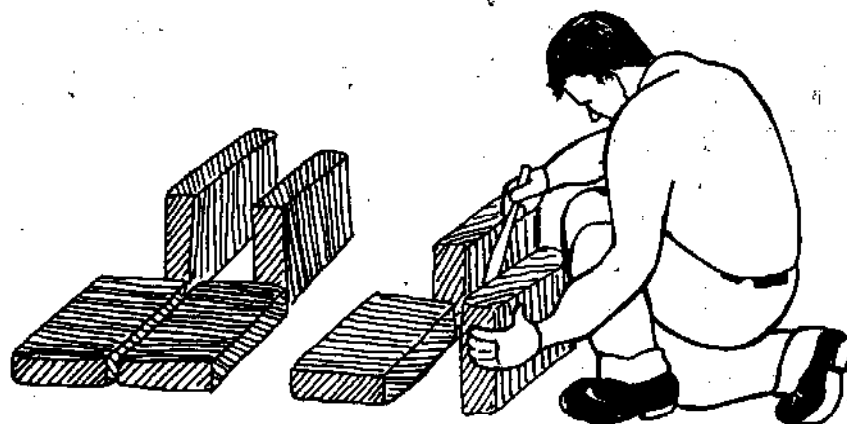

Figure 45. Unstabilized block is turned on edge to dry after two to four days.
2. As soon as the blocks are strong enough to be picked up without chipping or breaking, place them on edge to finish curing. At this time any loose sand or other material clinging to the block is scraped off with a small stick (see Figure 45). Curing will take about a month, but it depends a lot on the weather and the type of stabilizer in the block.